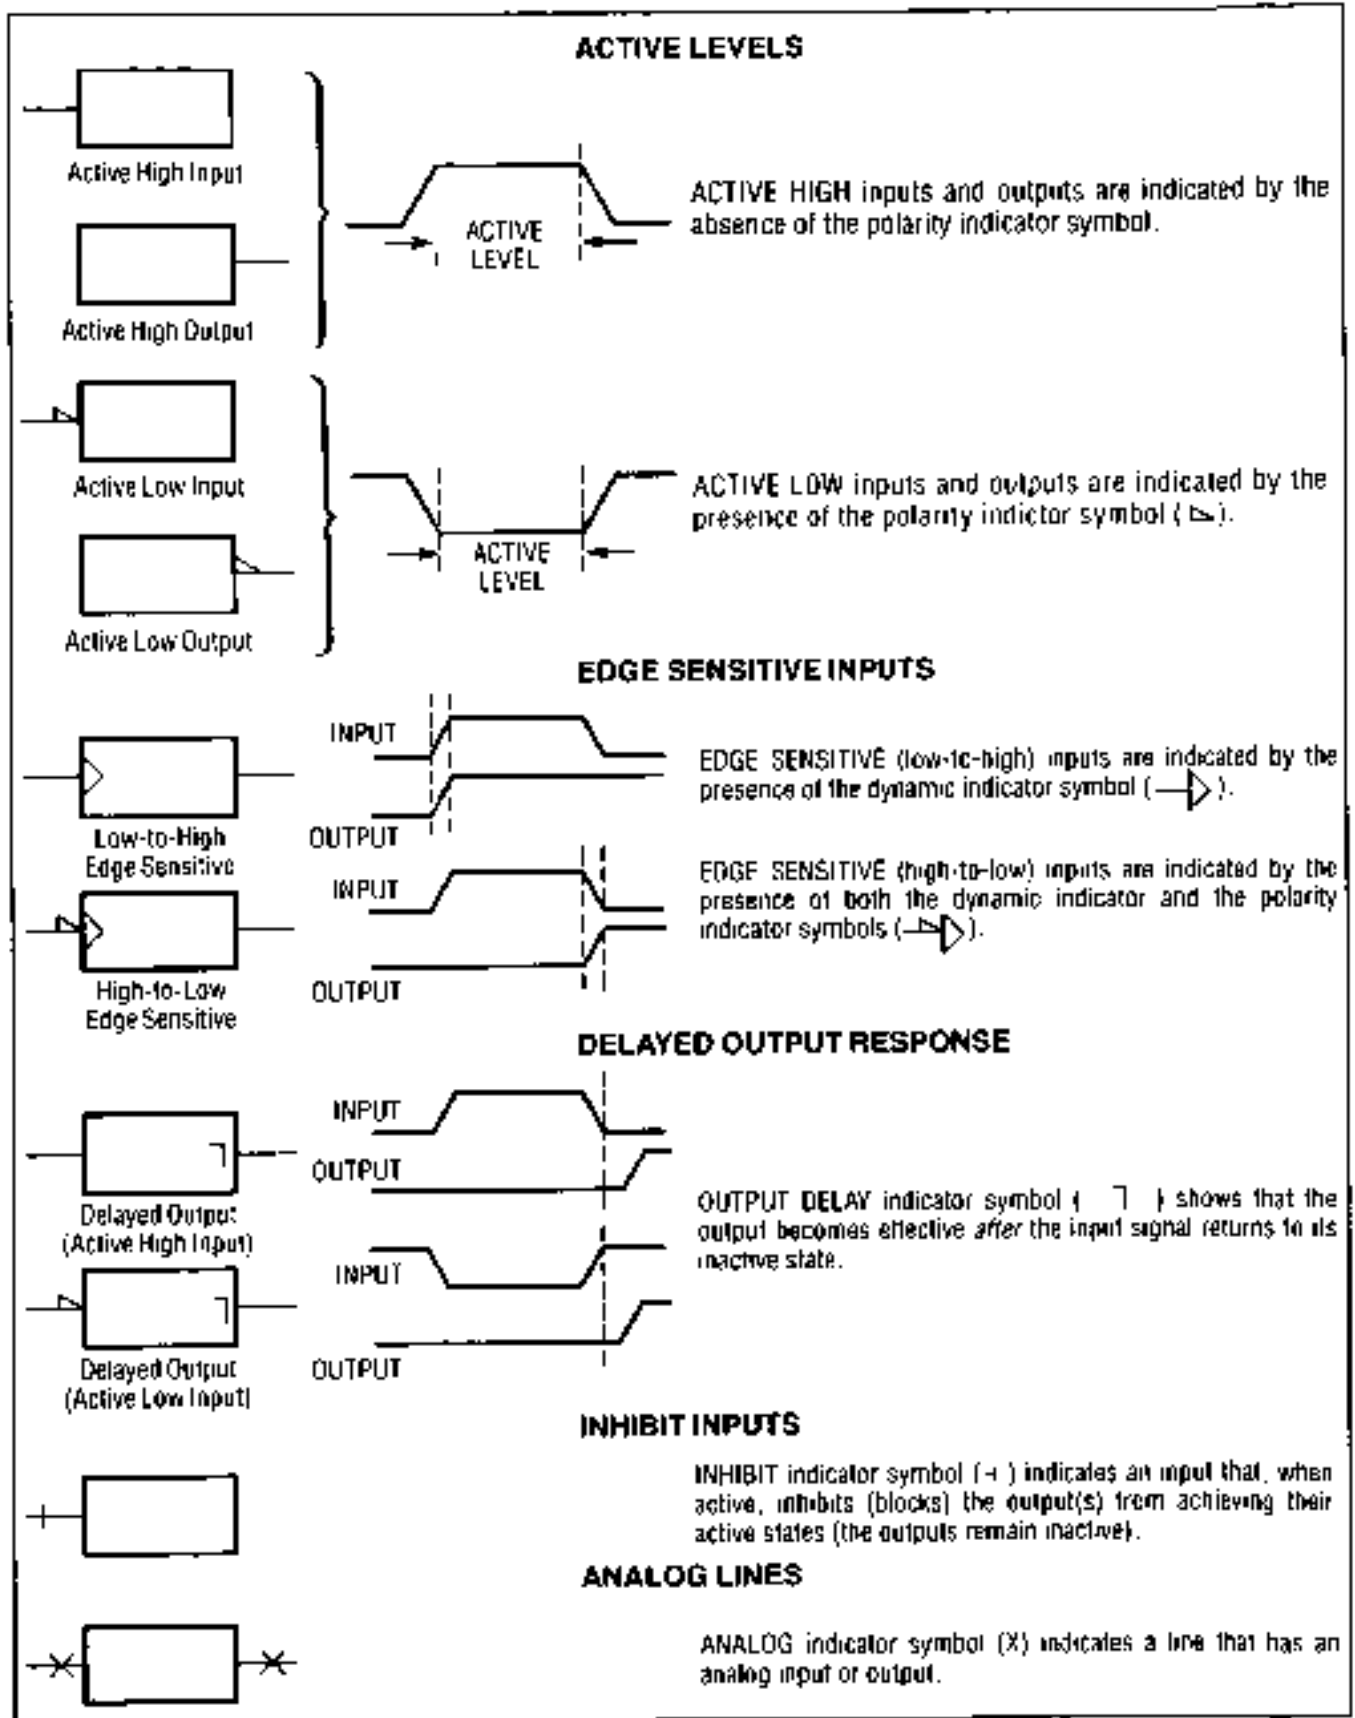

Figure 8-2. Indicator Symbols
**Indicator Symbols.** Indicator symbols identify the active state of a device's input or output, as shown in Figure 8-2.